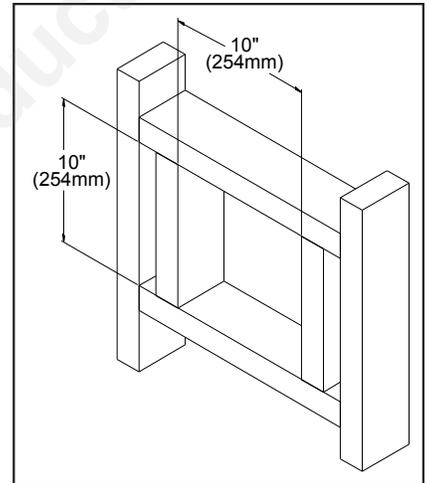

Figure 22: Wall Framing Hole for Horizontal Installation.
4. Frame the hole as shown in Figure 22.
5. Trim the wall thimble to match the wall thickness as necessary. Install the wall thimble and secure it to the inner wall frame using four (4) 1 1/2" wood screws. If a wall is greater than 8" (203mm) in depth, the clearance above the flex must be 4 3/8" (111mm)
**STEP 3.** With the pipe attached to the stove in the correct location, mark the wall for a 10" (25.4 cm) x 10" (25.4 cm) square hole (refer to Figure 22). The center of the square hole should match the center line of the horizontal pipe. Cut and frame the 10" (25.4 cm) x 10" (25.4 cm) hole in the exterior wall where the vent will be terminated. Refer to Figure 15. If the wall being penetrated is constructed of non-combustible material i.e. masonry or concrete, a 7 inches (17.8 cm) hole is acceptable.